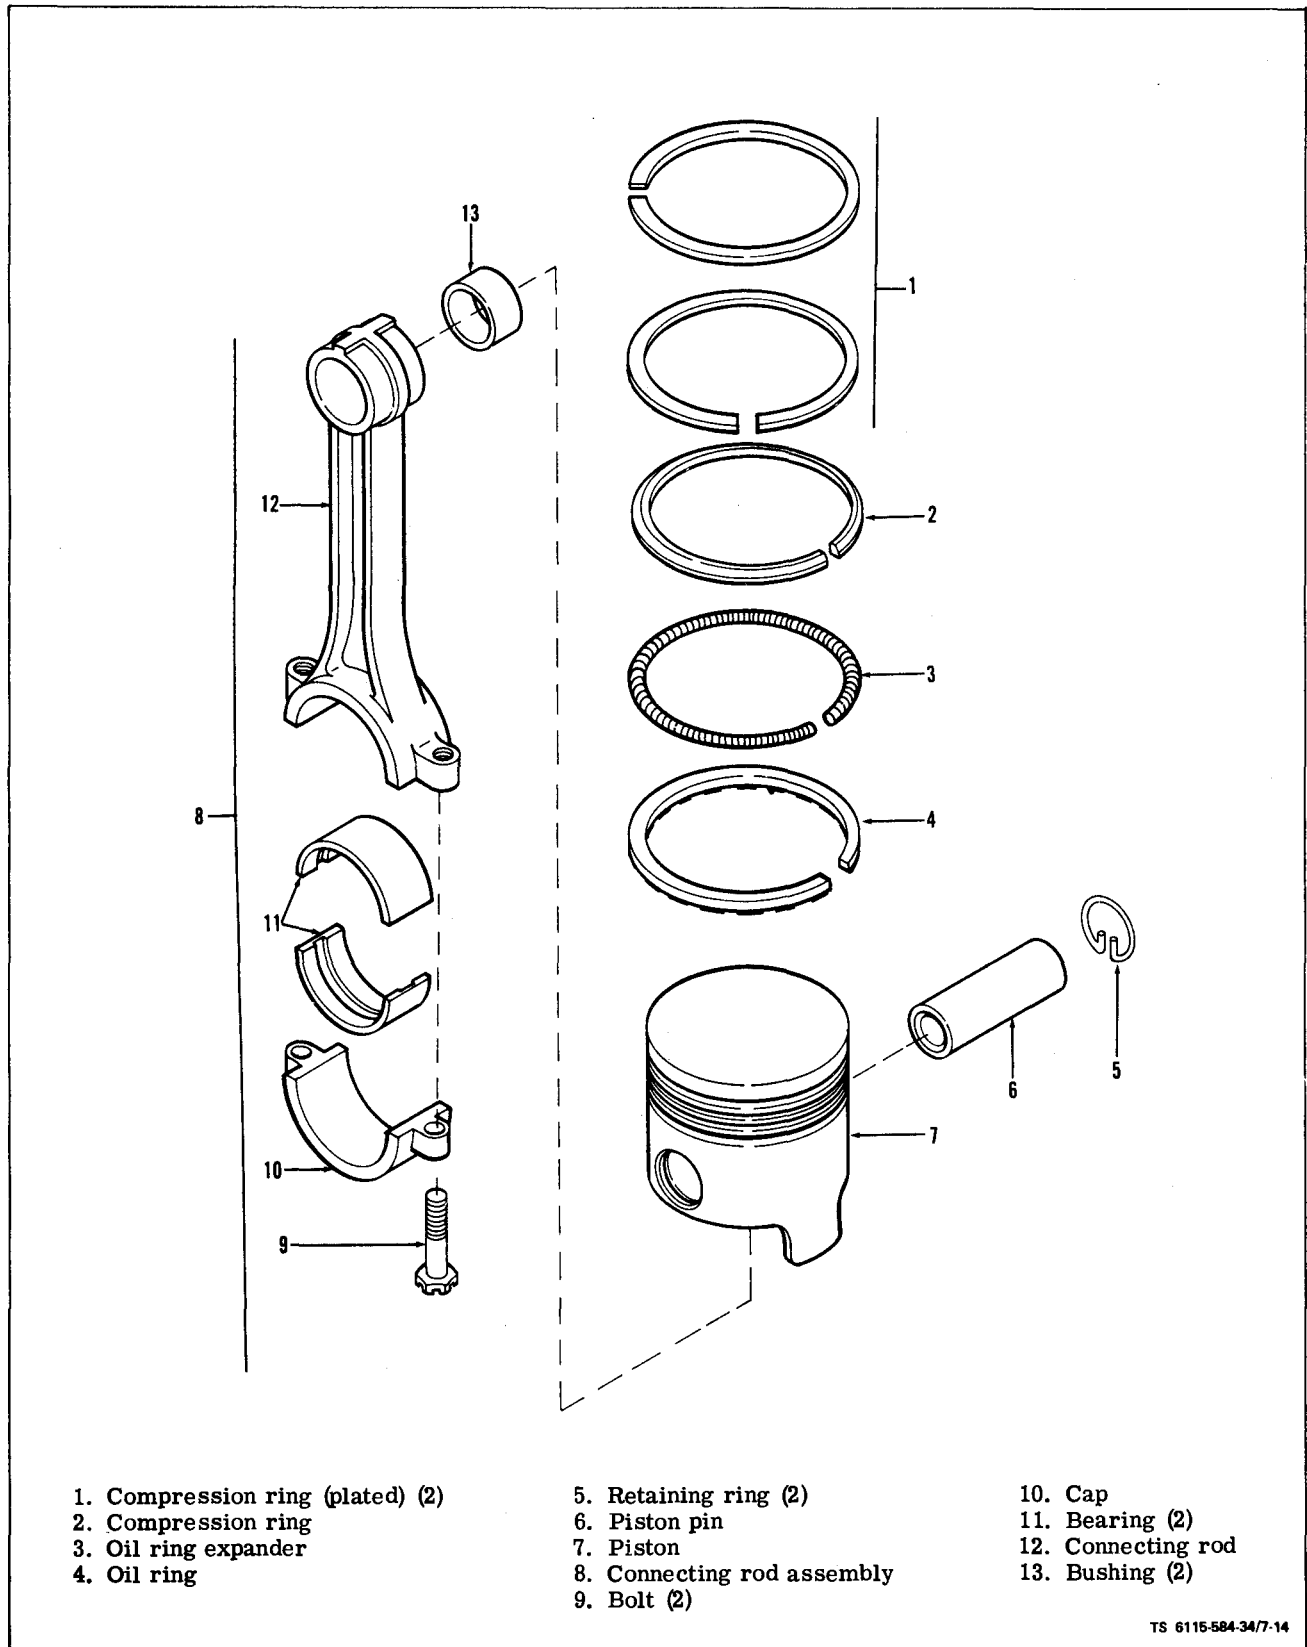
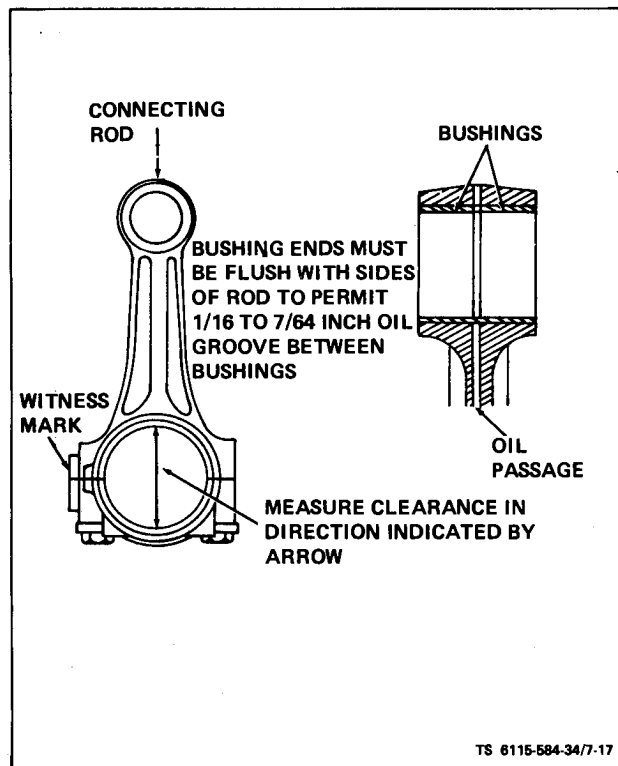

Figure 7-14. Piston and Connecting Rod
Figure 7-17. Connecting Rod and Bushings
(5) Set valve clearance per Operator and Organizational Maintenance Manual.
(6) Refer to Operator and Organizational Maintenance Manual and install air shutter assembly and shroud assembly.
a. General (see figure 7-14). Each piston (7) is fitted with three compression rings and an oil control ring (4). Full floating piston pins connect the piston to the connecting rod. The pins are held in place with retaining ring (5) at each end. The lower end of each connecting rod contains half shell precision bearings (11) and the upper end contains reamed bushings (13).
c. Disassembly (see figure 7-14).
(1) Using a ring expander, remove piston rings (1, 2 and 4) and oil ring expander (3) from each piston.
(4) Connecting Rods (see figure 7-17). Clean connecting rods and check for each defects. Check connecting rod bushings for proper clearance with piston pin. Clearance is given in Table 1-2. If bushings (13, figure 7-14) are excessively worn, press them out and install one new bushing from each side of bushing bore. Press new bushings only until flush with sides of rod to leave 1/16 to 7/64 inch oil groove in center. Ream bushing I.D. to obtain the proper clearance. Check bore in connecting rod. Bore must be open. Check connecting rod alignment on a standard alignment fixture.
(5) Connecting Rod Bearings (see figure 7-17). Inspect connecting rod bearings for burrs, breaks, pits and wear. Measure clearance between bearings and crankshaft journal. See Table 1-2 for clearance. If necessary, repiece with new standard or undersize precision bearings.
- e. Assembly (see figure 7-14).
(1) Install connecting rods (12, figure 7-14) on each piston (7) with pins (6) and retaining rings (5). If new bushings (13) were installed, check to see that ends are flush with the connecting rod (12) to provide for oil recess in the center.
(2) Install rings and oil ring expander (1, 2, 3 and 4) on each piston (7). Compression rings will be marked TOP or identified in some other manner. Place this mark toward the closed end of piston. Space ring gaps 1/4 of the way around piston from one another. No gap should be in line with piston pin. Oil the rings (1, 2 and 4) and pistons (7).
(1) Hone cylinder walls. Clean and oil the cylinder walls. Install each piston in proper cylinder using a suitable installer. Each piston assembly should be installed with notch on piston toward front of engine. The notch on the circumference of the closed end of the piston should be located closest to front of engine.
(2) Position each connecting rod on crankshaft and oil the journal and install rod cap with bearing half. When installing rod cap, position so raised witness mark on the forging matches the mark on connecting rod. See figures 7-17 and 7-18. The piston witness mark should face front and rod witness marks toward camshaft side of engine.
(3) Tighten capscrews to specified torque. See table 1-1.
(4) Turn engine over by hand to see that all bearings are free.